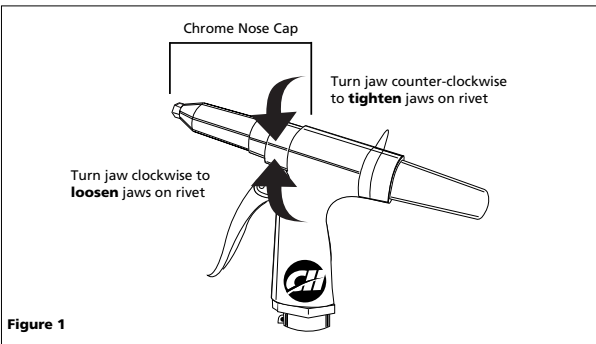

Figure 1
1. Hold rivet gun with nose cap pointing away from self. Remove chrome nose cap (See Figure 1).
3. Turn jaw counter-clockwise making jaws tighten on rivet. Turn clockwise to loosen jaws on rivet (See Figure 1).